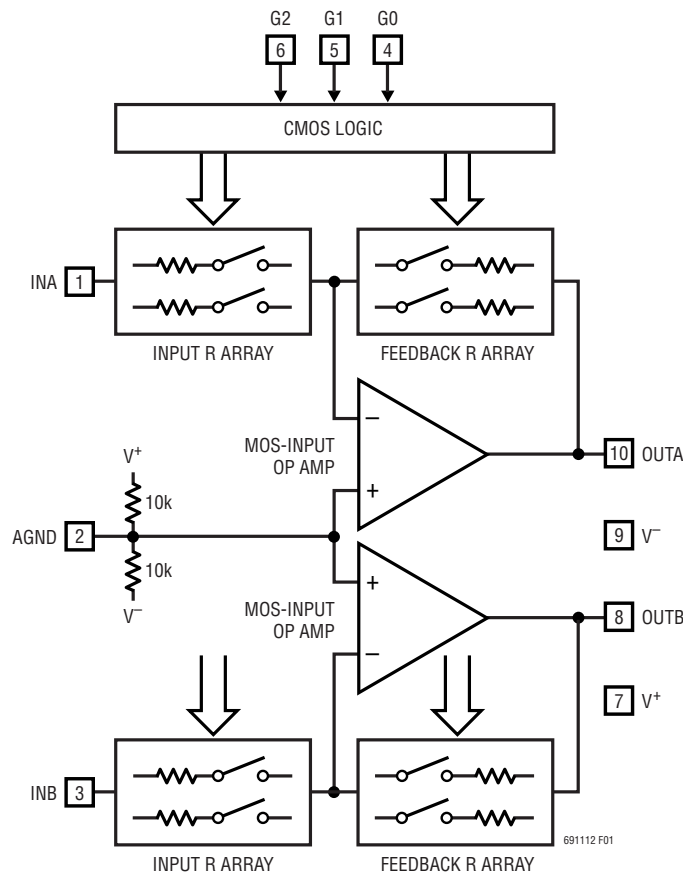
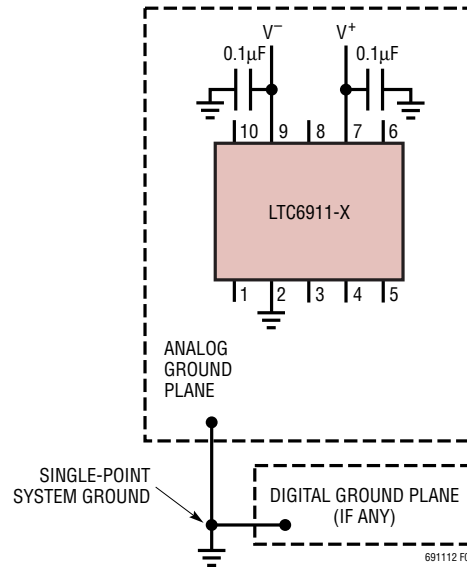
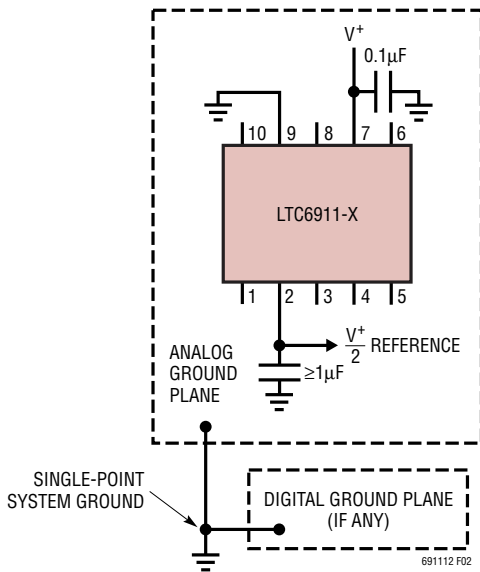

Figure 1. Block Diagram
Figure 3. Dual Supply Ground Plane Connection
Figure 2. Single Supply Ground Plane Connection
**INA (Pin 1):** Analog Input. The input signal to the A channel amplifier of the LTC6911-X is the voltage difference between the INA and AGND pin. The INA pin connects internally to a digitally controlled resistance whose other end is a current summing point at the same potential as the AGND pin (Figure 1). At unity gain (digital input 001), the value of this input resistance is approximately 10kΩ and the INA pin voltage range is rail-to-rail ( $V^+$  to  $V^-$ ). At gain settings above unity, the input resistance falls. The linear input range at INA also falls inversely proportional to the programmed gain. Tables 1 and 2 summarize this behavior. The higher gains are designed to boost lower level signals with good noise performance. In the “zero” gain state (digital input 000), analog switches disconnect the INA pin internally and this pin presents a very high input resistance. The input may vary from rail to rail in the “zero” gain setting, but the output is insensitive to it and is forced to the AGND potential.
**AGND (Pin 2):** Analog Ground. The AGND pin is at the midpoint of an internal resistive voltage divider, developing a potential halfway between the  $V^+$  and  $V^-$  pins, with an equivalent series resistance to the pin of nominally  $5k\Omega$  (Figure 1). AGND is also the noninverting input to both the internal channel A and channel B amplifiers. This makes AGND the ground reference voltage for the INA, INB, OUTA and OUTB pins. Recommended analog ground plane connection depends on how power is applied to the LTC6911-X (see Figures 2, 3 and 4). Single power supply applications typically use  $V^-$  for the system signal ground. The analog ground plane in single supply applications should therefore tie to  $V^-$ , and the AGND pin should be bypassed to this ground plane by a high quality capacitor of at least  $1\mu F$  (Figure 2). The AGND pin provides an internal analog reference voltage at half the  $V^+$  supply voltage. Dual supply applications with symmetrical supplies (such as  $\pm 5V$ ) have a natural system ground plane potential of zero volts, which can be tied directly to the AGND pin, making the zero volt ground plane the input and output reference voltage for the LTC6911-X (Figure 3). Finally, if dual asymmetrical power supplies are used, the supply ground is still the natural ground plane voltage. To maximize signal swing
In noise sensitive applications where AGND does not directly tie to a ground plane, as in Figures 2 and 4, it is important to AC-bypass the AGND pin. Otherwise, channel-to-channel isolation is degraded and wideband noise will enter the signal path from the thermal noise of the internal voltage divider resistors that present a Thévenin equivalent resistance of approximately  $5k\Omega$ . This noise can reduce SNR by at least 3dB at high gain settings. An external capacitor from AGND to the ground plane, whose impedance is well below  $5k\Omega$  at frequencies of interest, will filter and suppress this noise. A  $1\mu\text{F}$  high quality capacitor is effective for frequencies down to 1kHz. Larger capacitors extend this suppression to lower frequencies. This issue does not arise in dual supply applications because the AGND pin ties directly to ground.
The LTC6911-1/LTC6911-2 are small outline, wideband inverting 2-channel amplifiers whose voltage gain is digitally programmable. Each delivers a choice of eight voltage gains, controlled by the 3-bit digital parallel interface (G pins), which accept CMOS logic levels. The gain code is always monotonic; an increase in the 3-bit binary number (G2 G1 G0) causes an increase in the gain. Tables 1 and 2 list the nominal voltage gains for LTC6911-1 and LTC6911-2 respectively. Gain control within each amplifier occurs by switching resistors from a matched array in or out of a closed-loop op amp circuit using MOS analog switches (Figure 1). Bandwidth depends on gain setting. Curves in the Typical Performance Characteristics section show measured frequency responses.
Settling time in the CMOS gain-control logic is typically several nanoseconds and is faster than the analog signal path. When amplifier gain changes, the limiting timing is analog, not digital, because the effects of digital input changes are observed only through the analog output (Figure 1). The LTC6911-X's logic is static (not latched) and therefore lacks bus timing requirements. However, as with any programmable-gain amplifier, each gain change causes an output transient as the amplifier's output moves, with finite speed, toward a differently scaled version of the input signal. Varying the gain faster than the output can settle produces a garbled output signal. The LTC6911-X analog path settles with a characteristic time constant or time scale,  $\tau$ , that is roughly the standard value for a first order band limited response:
of 1, or 1.5mV at a gain setting of 2. At high gains,  $V_{OS(IN)}$  approaches  $V_{OS(OA)}$ . (Offset voltage is random and can have either polarity centered on 0V.) The MOS input circuitry of the internal op amp in Figure 1 draws negligible input currents (unlike some op amps), so only  $V_{OS(OA)}$  and G affect the overall amplifier's offset.